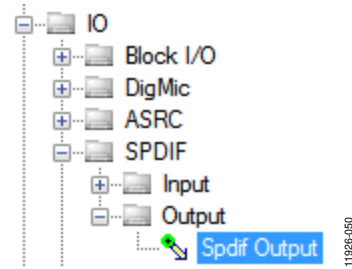

Figure 48. S/PDIF Output Block Selection
- a. From the **IO > SPDIF > Output** folder, click **Spdif Output** (see Figure 48) and drag it into the project space to the right of the toolbox.